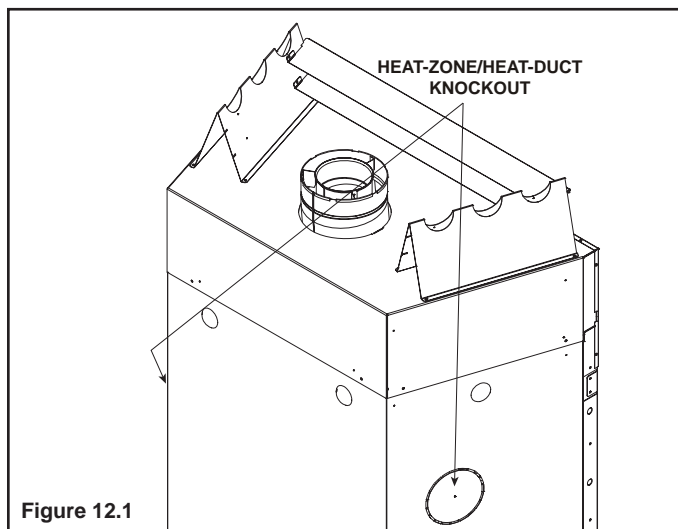

Figure 12.1
- Remove the knockout from the sides of the appliance and discard it (see Figure 12.1).